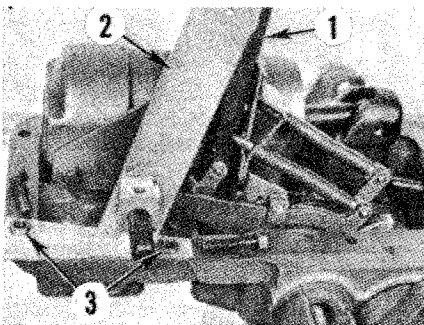
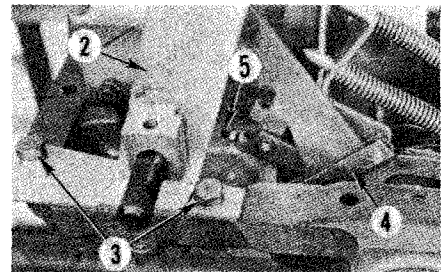
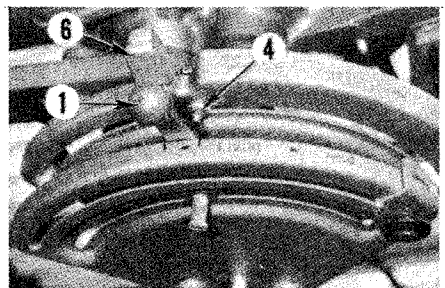
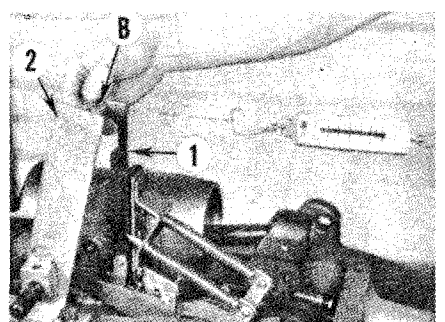

Fig. 219—The special gage tool (MFN 1080-D) shown at (2) should be installed using two Nuday No. 6088 bushings (3) and bolts. Vertical lever is shown at (1).
Fig. 220—Refer to text for internal adjustment of lift cover linkage.
Fig. 221—View of control quadrant. Pressure control model is shown.
Fig. 222—Refer to text for testing and adjustment of draft control linkage.
220. DRAFT CONTROL LINKAGE. To adjust draft control linkage, install special gage tool (MFN 1080-D) onto lift cover using special bushings (Nuday No. 6088) as shown in Fig. 219. Be sure vertical lever (1) is to rear of setting rod on gage tool, then slide Nuday No. 6089 bushing (B—Fig. 222) over the setting rod.
If equipped with pressure control, move pressure control lever (4—Fig. 220) upward. On all models, turn position control adjustment screw (5) outward several turns. Move position control lever against transport stop and place draft control lever between sector marks as shown in Fig. 221. Attach a suitable spring scale to vertical lever (1—Fig. 222) and apply a 1.36 Kg (3 pound) pull